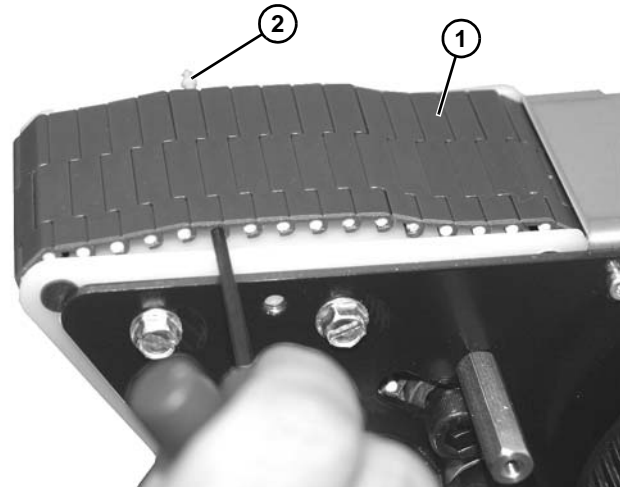

Figure 163
7. Lift slightly on belt (**Figure 163, item 1**) and push pin (**Figure 163, item 2**) out of belt.